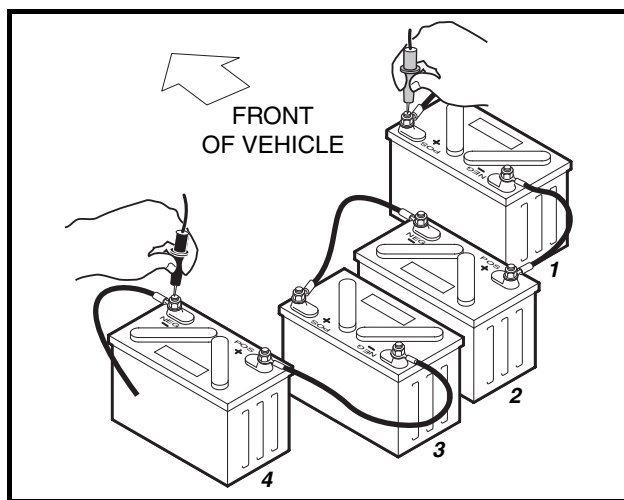

Figure 6-12 DS, DS Villager 4, 800, 810 and 850 Battery Configuration
- 4.1. **DS, DS Villager 4, 800, 810 and 850:** With a multimeter set to 200 volts DC, measure the voltage of the battery pack between the positive (+) post of battery no. 1 and the negative (–) post of battery no. 4 (**Figure 6-12, Page 6-17**).